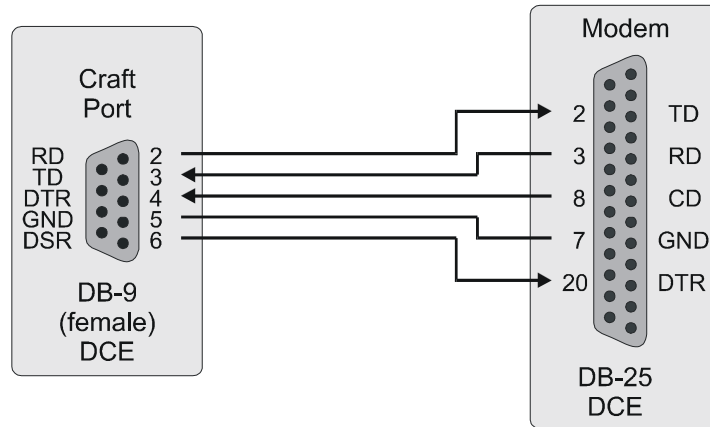

Figure 4. Front Panel Craft Port to Modem Connections
When connecting the RS-232 port to a modem, a null modem cable should be used. Ensure that the modem's Carrier Detect (CD) and DTR functions are enabled. This allows the modem connection to terminate properly when the FLL-812 drops Data Set Ready (DSR) and the unit logs off after the modem drops CD. The following connections are required to make the modem work correctly (Figure 4).